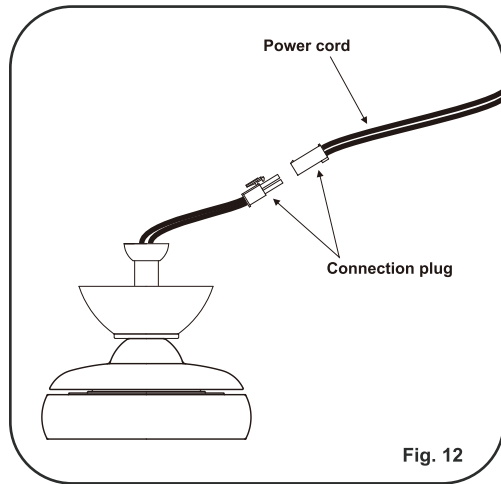

Fig. 12
Step 1. Motor to House Supply Wires Electrical Connections: Firmly snap the wire connection plugs from the motor and the power cord together. (Fig. 12)